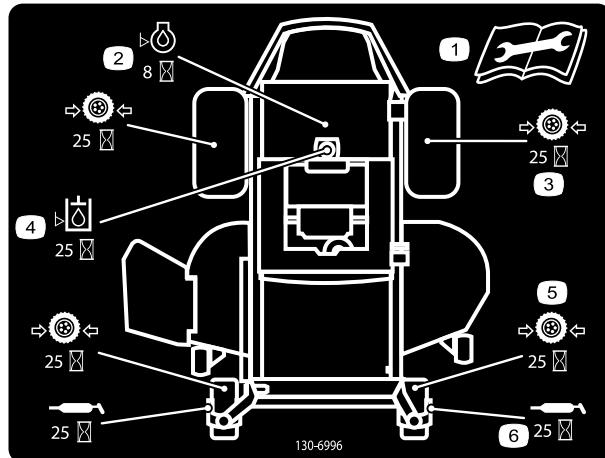
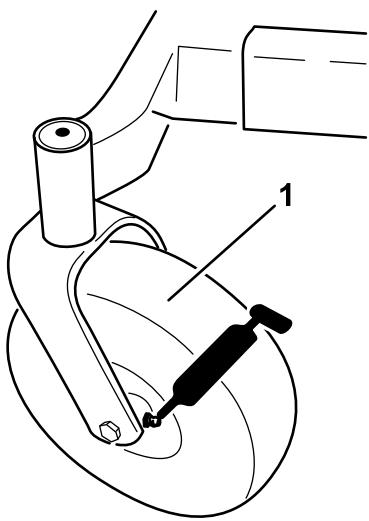

Figure 27
Figure 28
3. Clean the grease fittings with a rag (Figure 27 and Figure 28). Make sure to scrape any paint off of the front of the fitting(s).
4. Connect a grease gun to each fitting (Figure 28 and Figure 27). Pump grease into the fittings until grease begins to ooze out of the bearings.